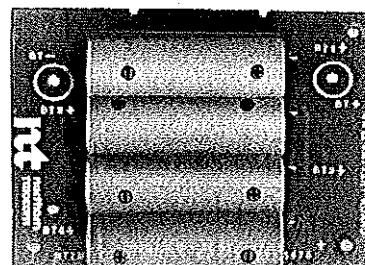

Fig. 15 - Rechargeable Battery Pack
5.04 The Rechargeable Batteries used to provide memory backup in the Digital Announcer may be replaced without need for factory service. The battery pack consists of four cells permanently mounted onto a circuit board assembly (figure 15). The board is keyed to prevent incorrect installation.